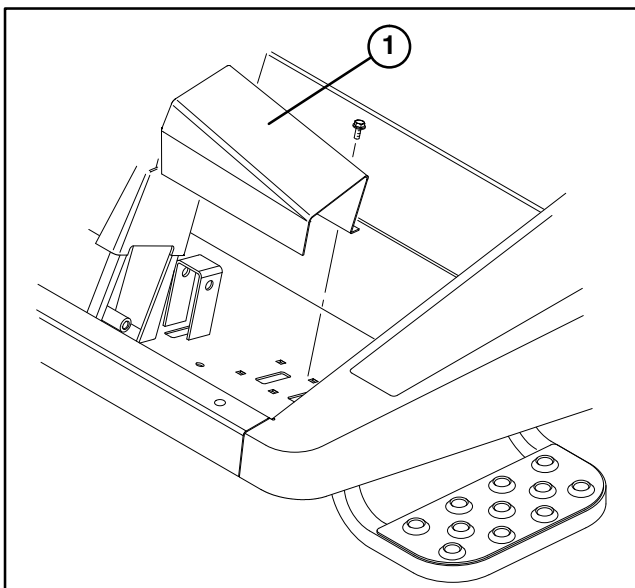

Figure 9
22. Remove (2) flange head capscrews securing tube cover to traction unit floor (in front of brake pedals) (Fig. 9). Remove cover.